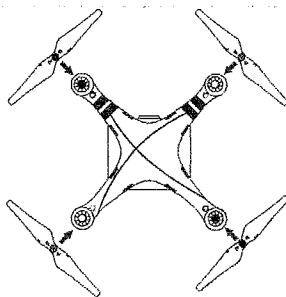

Figure 2-2
- (Figure 2-2) Prepare the two grey nut propellers and two black nut propellers. Make sure to match the black nut propellers with the correctly marked black dot motors. Tighten the propellers according to the fastening instructions.